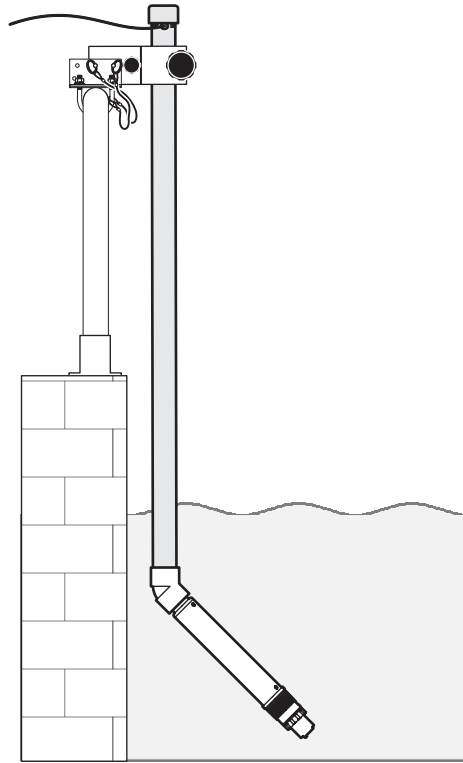

Figure 10 Example of sensor installation with Rail Mount Kit
- Refer to the instructions supplied with the optional mounting accessories for detailed installation information (see Figure 10 on page 16).